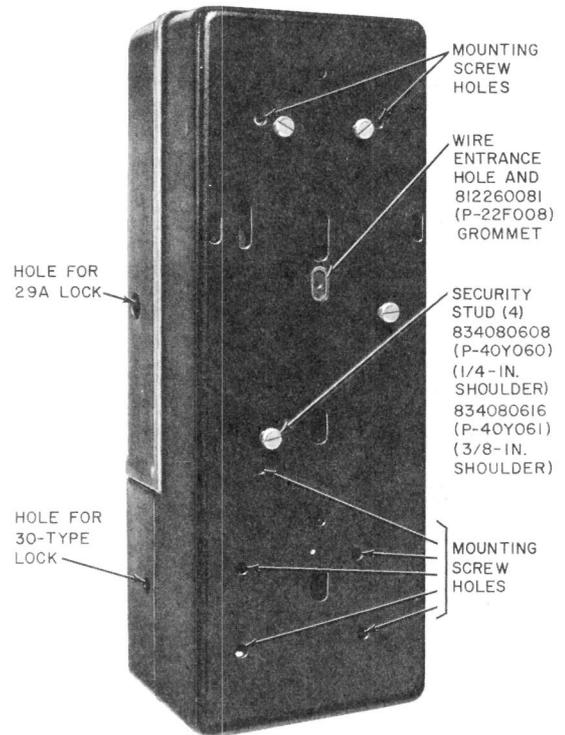

Fig. 7—Location of Mounting Screw Holes and Security Studs in 1-Type Set
3.05 Refer to Fig. 7 and 8 and Tables D and E for security stud requirements.